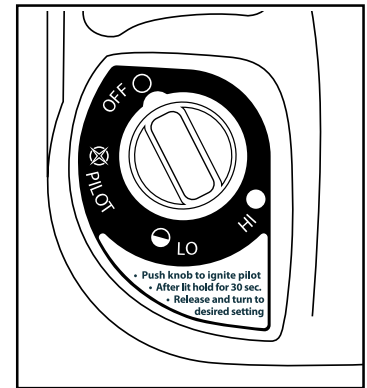

Figure 1: "Off" position.
- Make sure four-position Control Knob is in "OFF" position; see Figure 1.